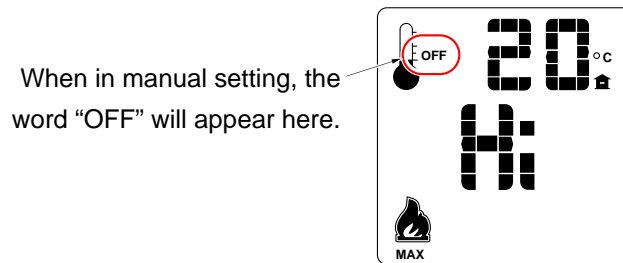

Figure 6
- MANUAL ON/OFF** – The burner will turn on and off using the remote (see Figure 6). Press the On/Off button to control the burner. When off, the display will only show the current temperature.